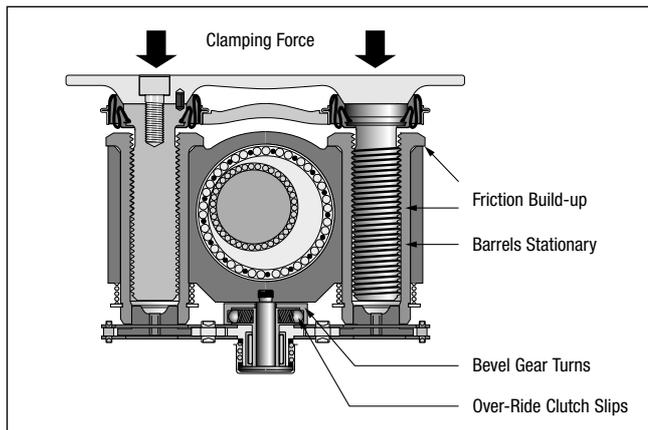

FIG. 8
- The clamping force generates friction in the screw threads between the adjuster sleeves and pistons, and friction under the flanged head of the adjuster sleeves. (Fig. 8).
- When the pads contact the rotor a clamping force is generated and this is fed back into the adjuster sleeves and pistons, generating friction in the adjuster screw threads, and friction under the flanged head of the adjuster sleeves. (Fig. 8).
- The friction build up prevents further rotation of the adjuster sleeves – instead the over-ride clutch begins to slip. The adjuster drive train is locked by the friction in the system and no adjustment takes place. The main gear turns but does not transmit motion beyond the over-ride clutch into the adjuster train (Fig. 8).